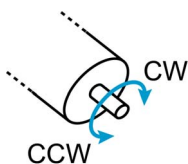

Figure 8-126 Adjustment of SSI commutation offset value | Check sense of rotation
- b) Turn the motor shaft by hand counterclockwise (CCW) as seen towards the motor's mounting flange (→Figure 8-126).